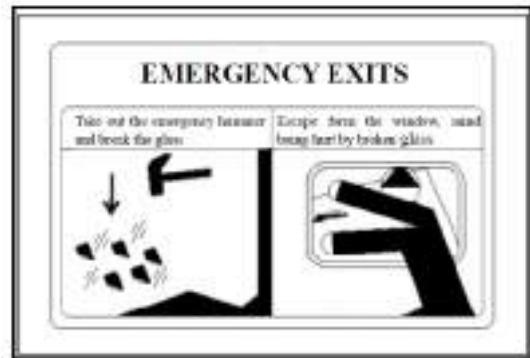

Figure 1-26 Description of the use of emergency exits
(25) Description of the use of emergency exits, as shown in Figure 1-26.